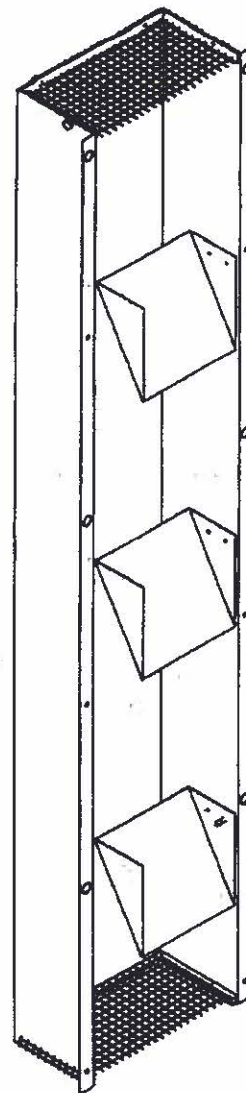

FIG. 2-12 – COMBUSTION VENT
4. See Figure 2-12 for the proper orientation of the combustion vent. The internal baffle(s) must direct the flue gases upward.